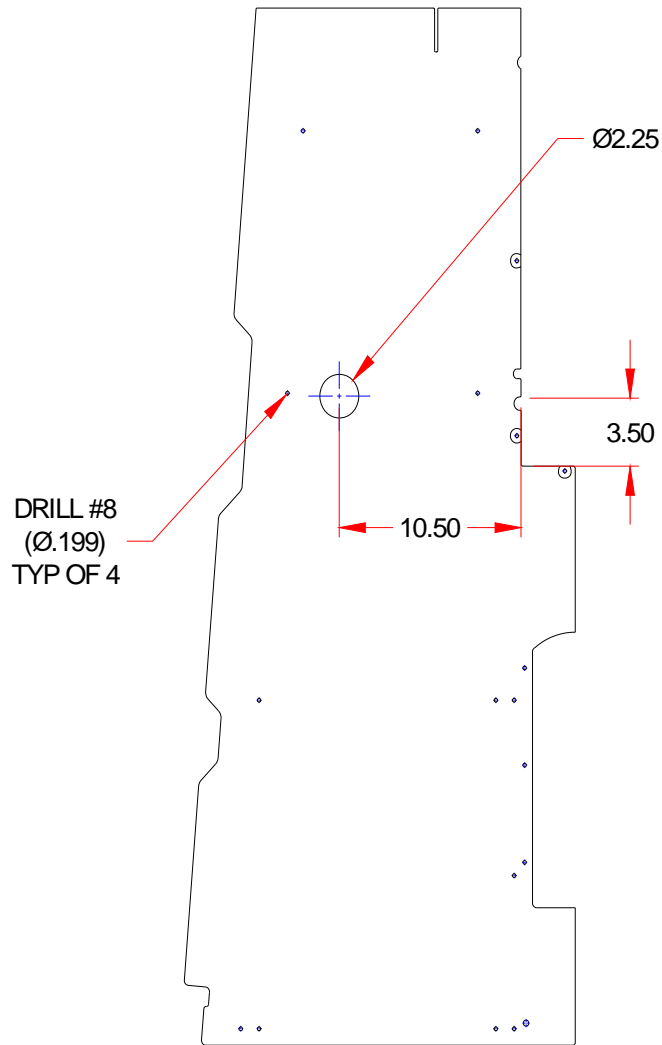

Figure 1 Pilot Floor Board
4. Determine the location for Pilot's floor board access hole according to measurements provided in Figure 1 as measured from the left-aft corner of the console.